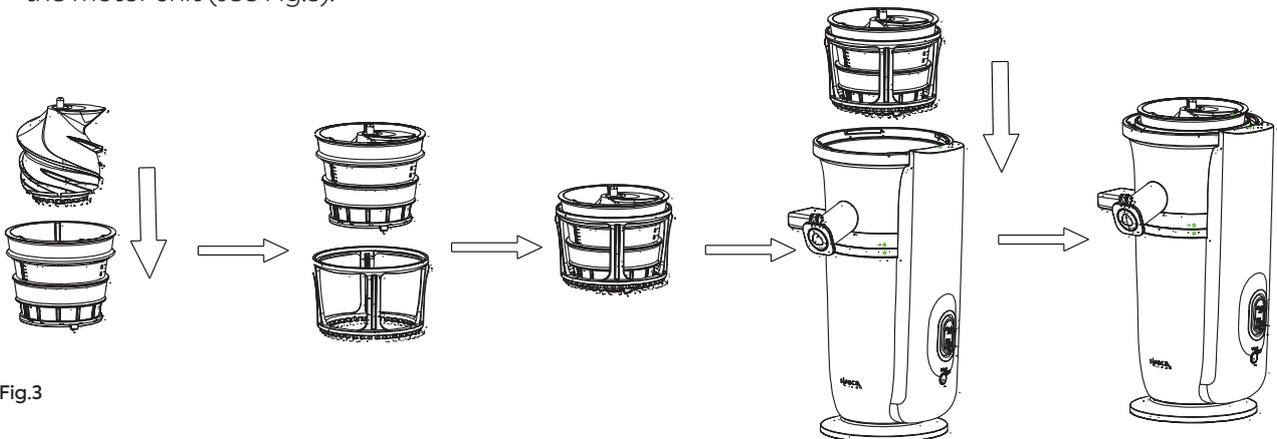

Fig.3
2. Put the grinding head into the strainer and then place the strainer into the rotary cleaning brush. After it, push the rotary cleaning brush downwards by making the symbol “▼” on the strainer align with the symbol “○” on the motor unit. Make sure the grinding head is covered well into the axis of the motor unit (see Fig.3).